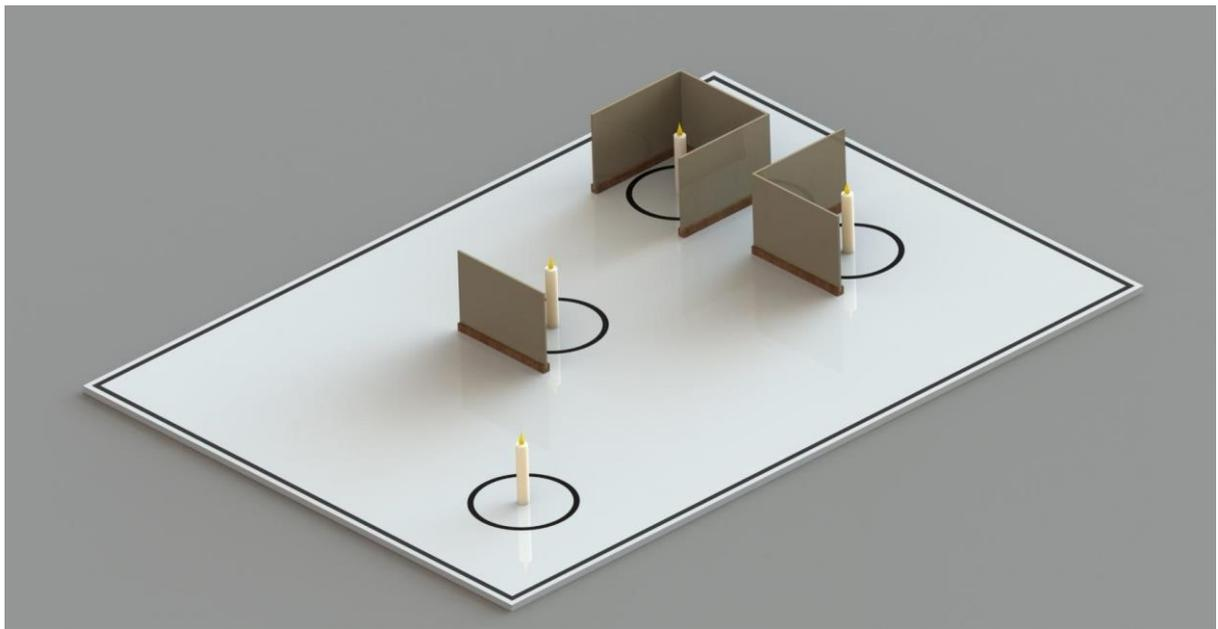

Figure 1 (Example of the field and a candle combination)
5. The candles stand in the center of a white circle with a diameter of 400 mm and are bound by a 25 mm wide black line (Figure 1).